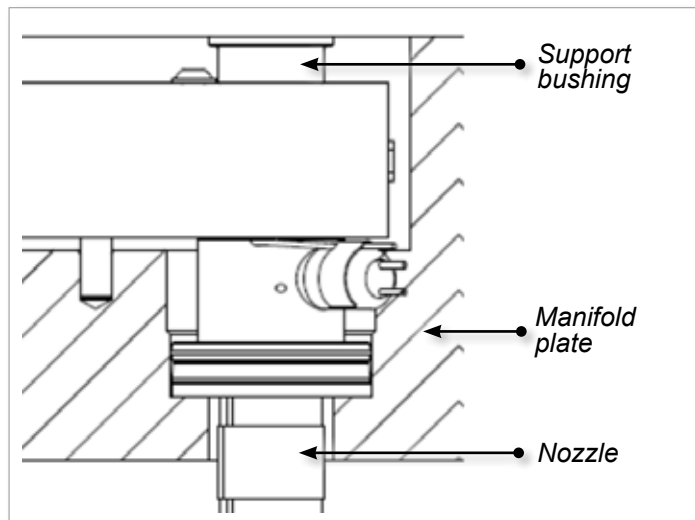

Figure 5-25 Support bushing in MasterShield systems
3. Use a dowel pin to install all of the support bushings into the manifold. See Figure 5-25.